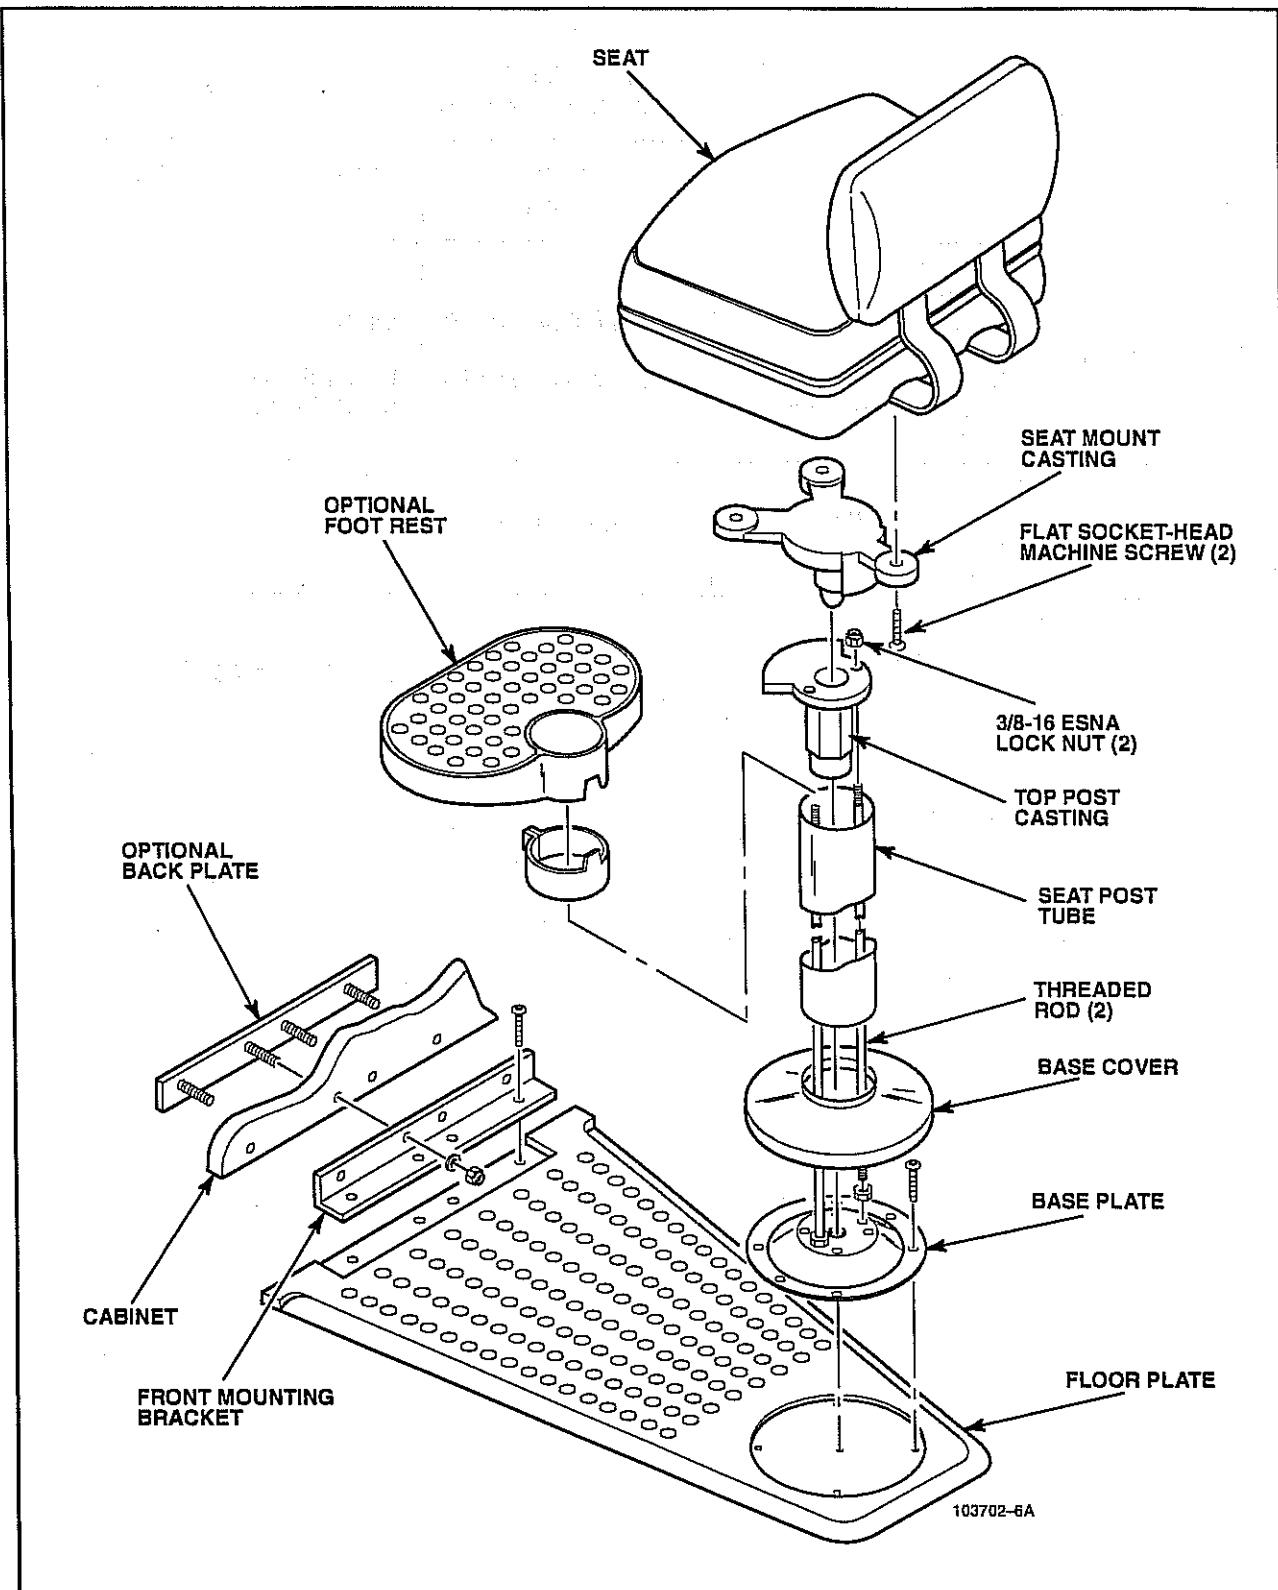

Figure 2-2. Seat Mounting.
2. Insert a 5/16" x 2-1/2" (8mm x 6.4 cm) carriage bolt, from inside the machine, through each of the three designated mounting holes (see Figure 2-2, Stand Mounting) and down into the stand.
To assemble and attach a seat to the front of the stand, locate the hardware kit shipped with the seat, then see Figure 2-2 and proceed as follows. Refer to the Commonly Used Hardware table in Section 1 to identify any unfamiliar hardware.